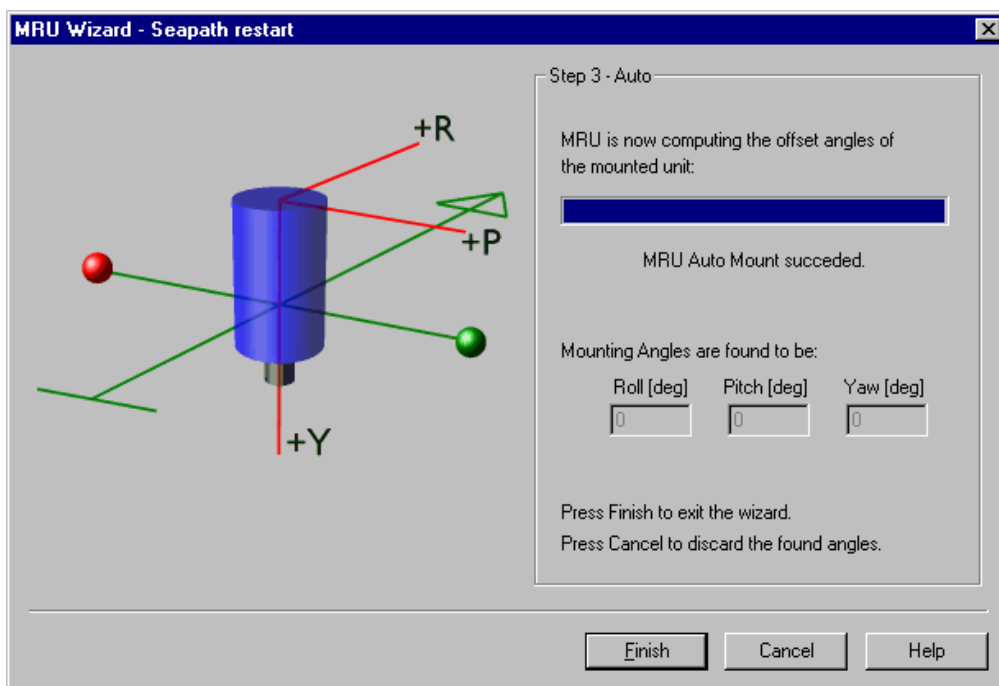

Figure 52 Step 3 of Auto MRU Axis Orientation
- Then click **Next** to start the Auto Mount process. The window in Figure 52 will appear, and the MRU offset angles are computed. A time-out bar shows the progress. When finished and the found mounting angles look OK, press **Finish**.